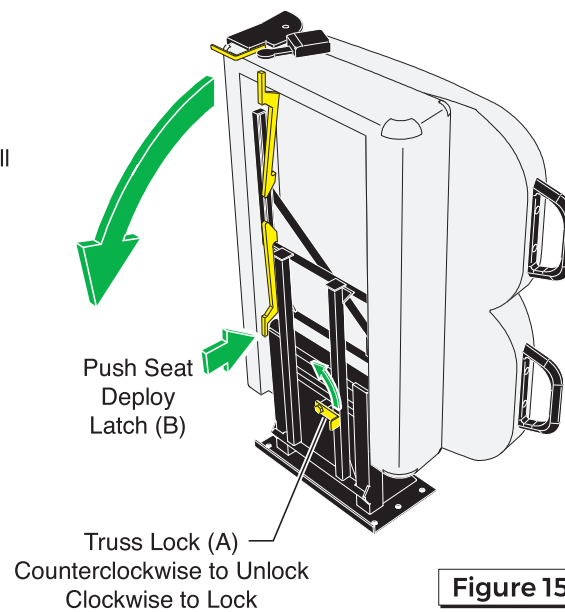

Figure 15
1. Lift seat stow latch (D) and lift seat to full vertical position (ensure locked).
2. Rotate truss lock (A) clockwise to lock seat. See Figure 15.